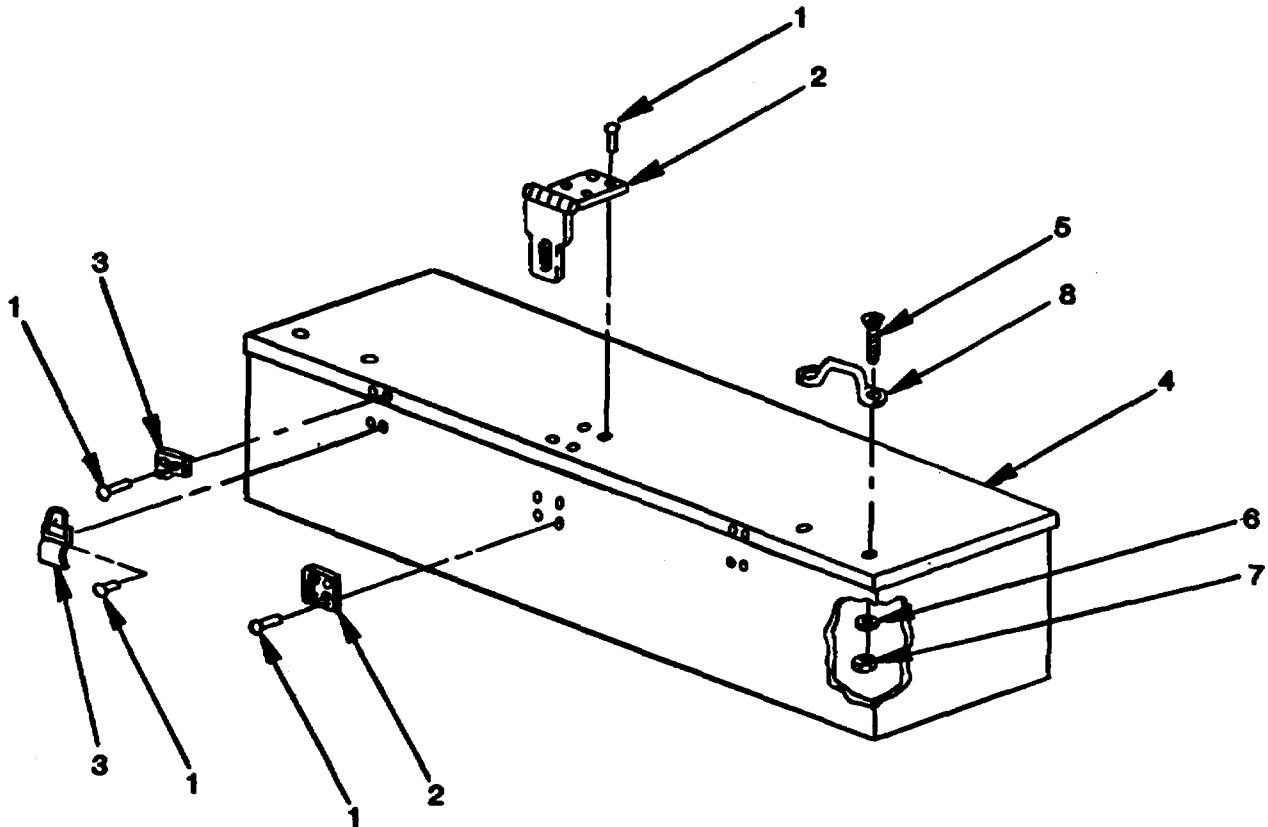

Figure 5-4. Accessory Box Repair on AN/MJQ-33.
- (1) Remove accessory box (paragraph 4-21a(1)) from the trailer bed, if necessary.
- (2) Drill out rivets (1, figure 5-4) securing hinged hasp/staple (2) or clamping/strike catch (3) to accessory box (4).
- (3) Position new hinged hasp/staple (2) or clamping/strike catch (3) on accessory box (4) and secure with rivets (1).
- (4) Touch up with paint as required.
- (1) Remove two screws (5, figure 5-4), flat washers (6), and lock-nuts (7) securing strap fastener (8) to accessory box (4).
- (2) Position strap fastener (8) on accessory box (4) and install two screws (5), washers (6), and locknuts (7).